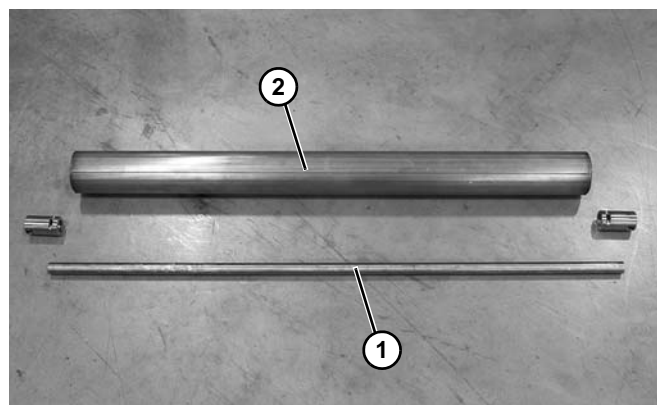

Figure 104
10. Remove the shaft (**Figure 104, item 1**) from the tensioner pulley (**Figure 104, item 2**).